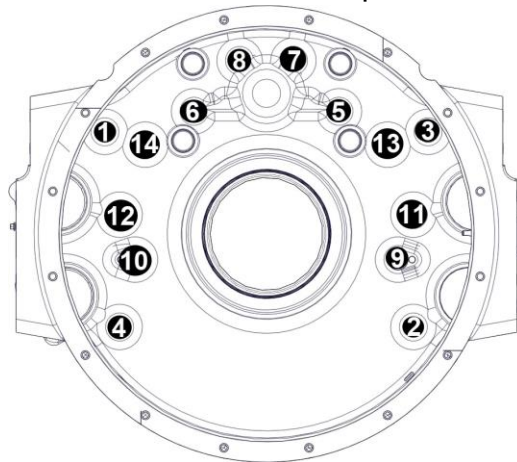

Figure 180. Flywheel Housing Bolt Sequence
13. Insert and tighten the bolts in the below sequence to 133 ft/lbs (See Figure 180).